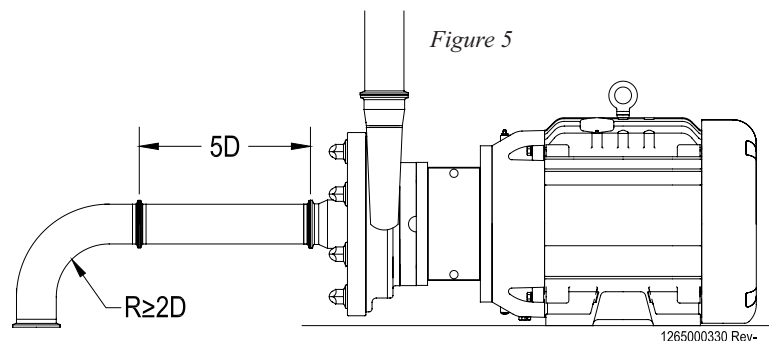

Figure 5
- Avoid elbows in the suction line if possible. When necessary they should be located 5 pipe diameters away from the pump inlet, and have a bend radius greater than 2 pipe diameters (**Figure 5**).